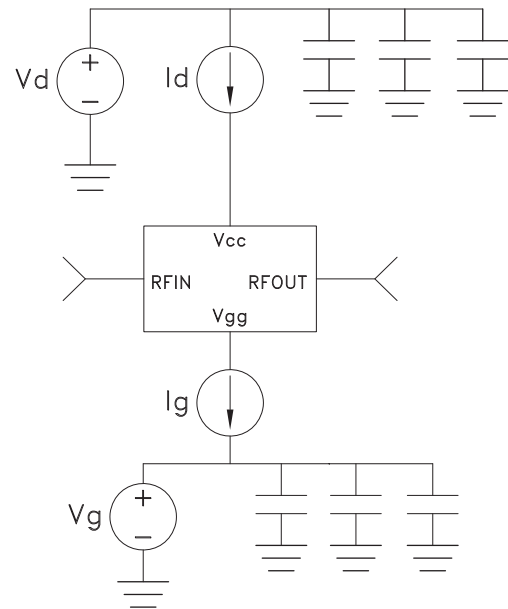

Figure 3 - Standard Amplifier
- The standard amplifier has a drain voltage and a gate voltage. The gate voltage is used to adjust the drain current for proper operation of the amplifier. Figure 3 shows a typical block schematic.
- Turn on power supplies and set both to zero (0) volts – be sure to verify this by using a digital multi-meter. Measure the voltage between the plus and minus terminals of the power supplies since they are floating.